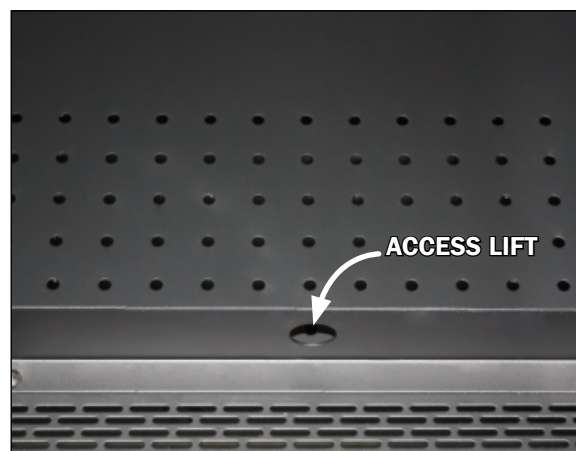

Fig. 19 Base deck pre-drilled access lift
2. To reach the fans and pressure plate first remove the base deck with help of the pre-drilled access lift supplied (Fig. 19). **Note: It is recommended that more than one person lift the deck.**